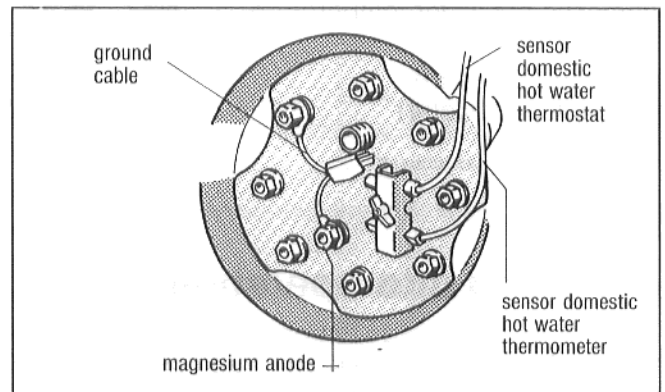

Fig. 8
- Loosen the wing-nut of the sensor fastener, insert the sensor into the mounting plate to match its geometrical shape (Fig. 8).
- Check whether the ground lead of the magnesium anode is connected to one of the fastening screws of the inspection port lid (Fig. 8).
- Connect the plug on the ground lead with the cable from the control panel (Fig. 8).